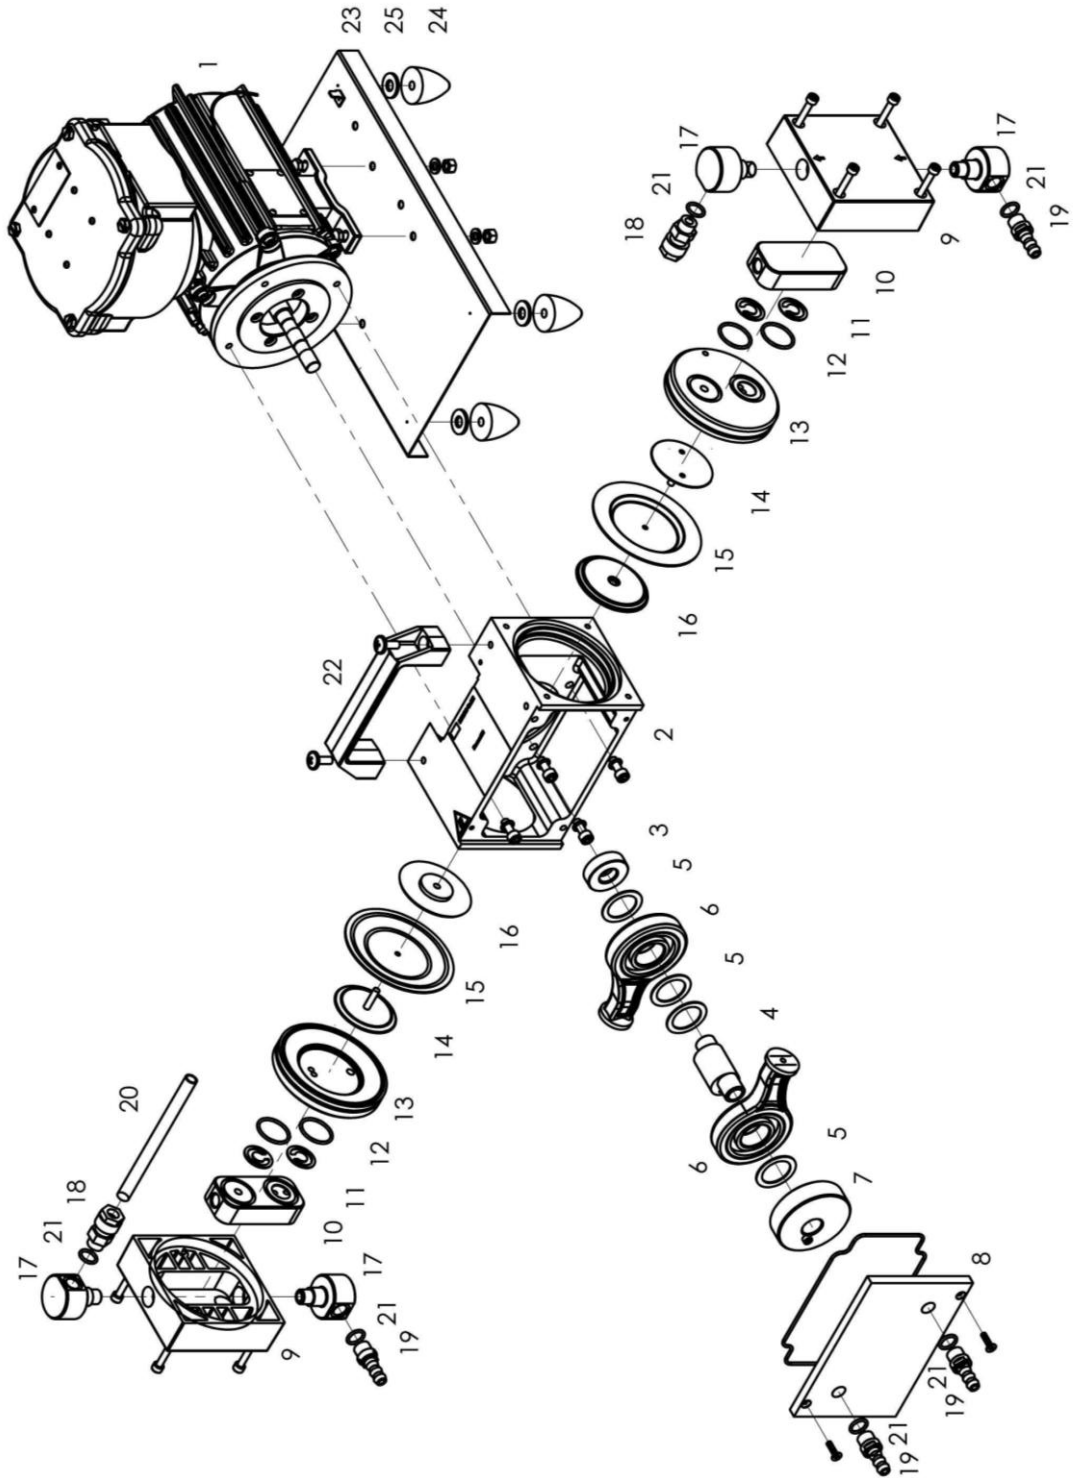

Fig. 7 Exploded view MPC 301 Zp Ex
3. Bring the connecting rod (see Fig. 7; 8) and the diaphragm **(7)** into the central position.